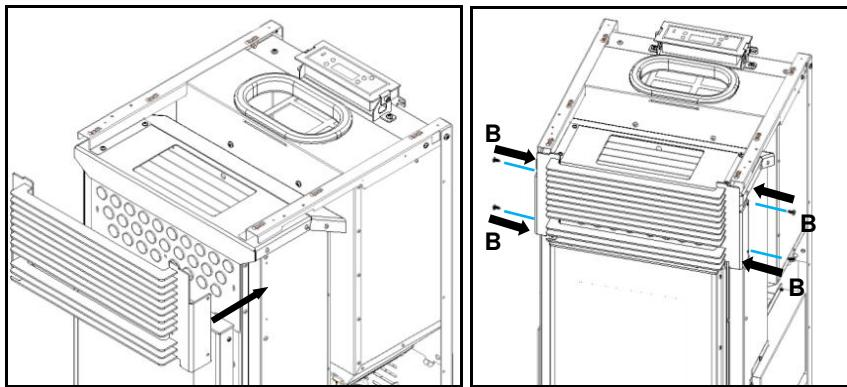

Figure 92 – Front grille assembly
b) Then, pull the registry bar forward (Figure 92-a), match the hole of the shaft and the hole of the blade and join them with a screw **A** (DIN 912 M6x10).